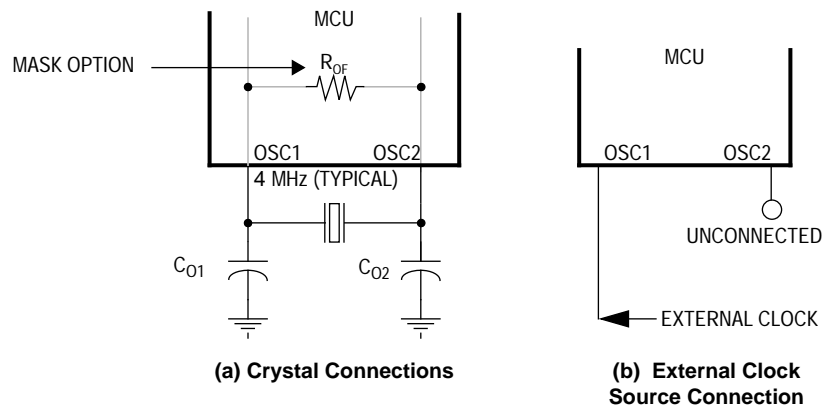

Figure 1-4. Oscillator Connections
1. A crystal or ceramic resonator as shown in **Figure 1-4(a)**
2. An external clock signal as shown in **Figure 1-4(b)**
The circuit in **Figure 1-4(a)** shows a typical 2-pin oscillator circuit for an AT-cut, parallel, resonant crystal. The crystal manufacturer's recommendations should be followed, since the crystal parameters determine the external component values required to provide maximum stability and reliable startup. The load capacitance values used in the oscillator circuit design should include all stray capacitances. The crystal and components should be mounted as close as possible to the pins for startup stabilization and to minimize output distortion. An internal startup feedback resistor of R_{OF} between OSC1 and OSC2 can be selected as a mask option.
An external clock from another CMOS-compatible device can be connected to the OSC1 input, with the OSC2 output not connected, as shown in **Figure 1-4(b)**. This configuration is possible regardless of the oscillator setup.